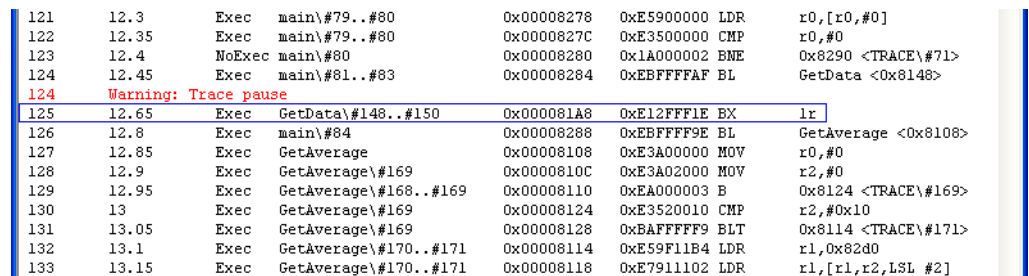

Figure 10-41 Captured trace near the GetData() function
5. Scroll through the captured trace. Observe that only the function call to GetData() and the instructions to return to main() are traced. Figure 10-41 shows an example: